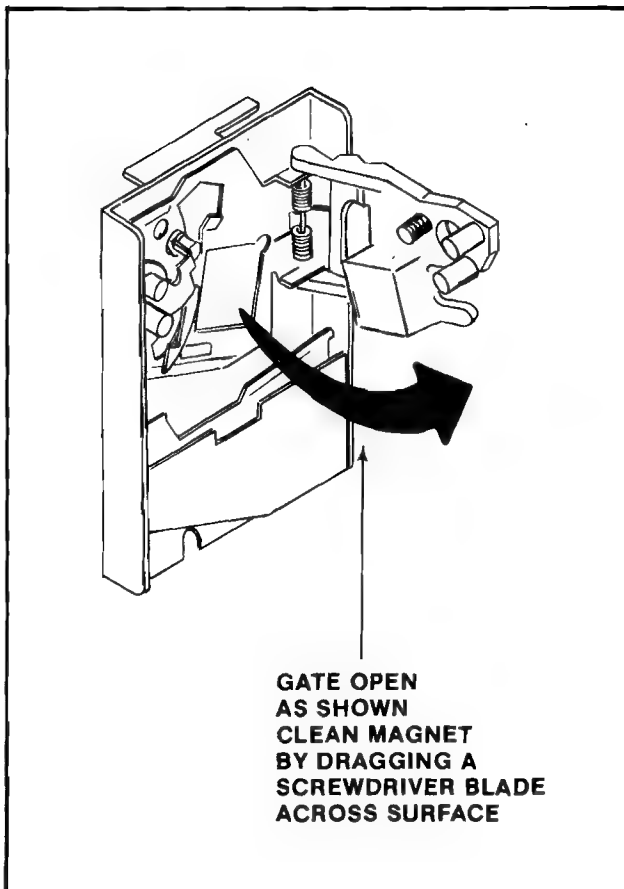

Figure 5-2 Cleaning the Metal Coin Acceptor
4. Clean the magnet of all foreign particles. See Figure 5-2.